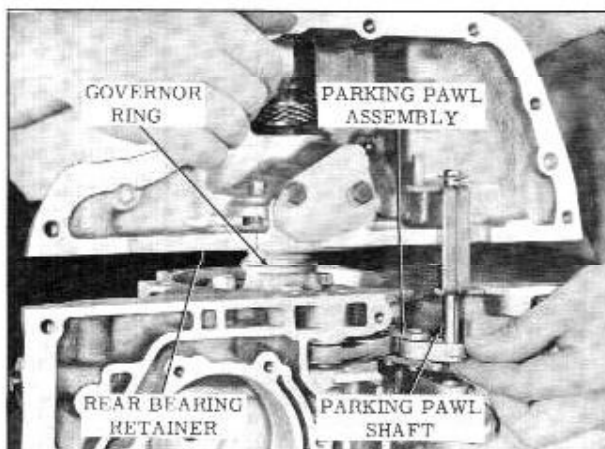

Fig. 3-108 Installing Rear Bearing Retainer
30. Install rear bearing retainer over output shaft, guiding parking pawl shaft into the parking pawl assembly. (Fig. 3-108)